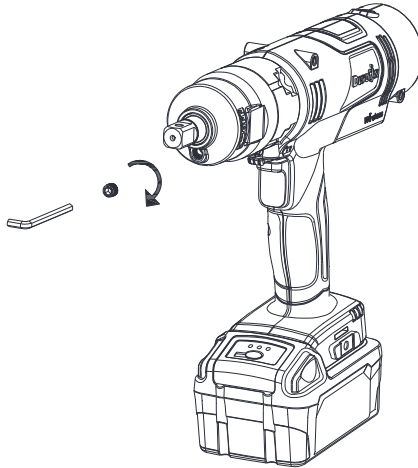

FIG. 6
5. Finally use an Allen key (4.0mm) to tighten the nut clockwise. (FIG.6)